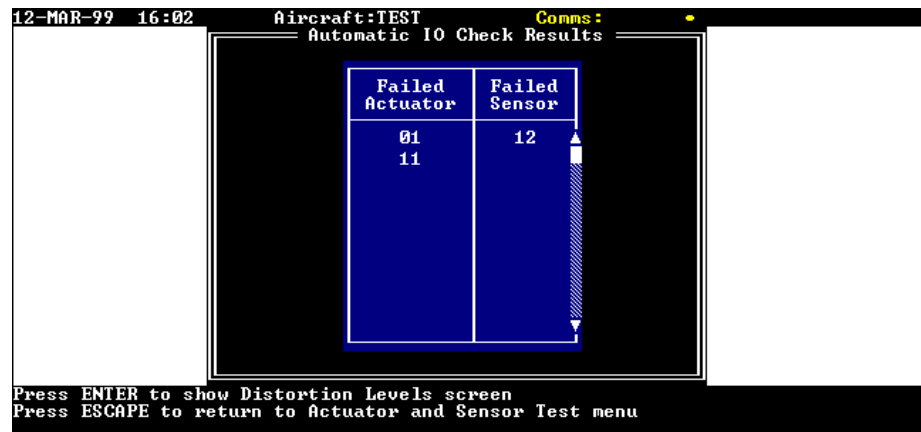

Figure 3.16 – ‘Automatic IO Check Results’ screen.
- (d) On completion of the test the results will be shown on the MT display (Ref. Figure 3.16).
- (f) Press <ENTER> to return to the 'Automatic IO Check Results' screen (Ref. Figure 3.16).